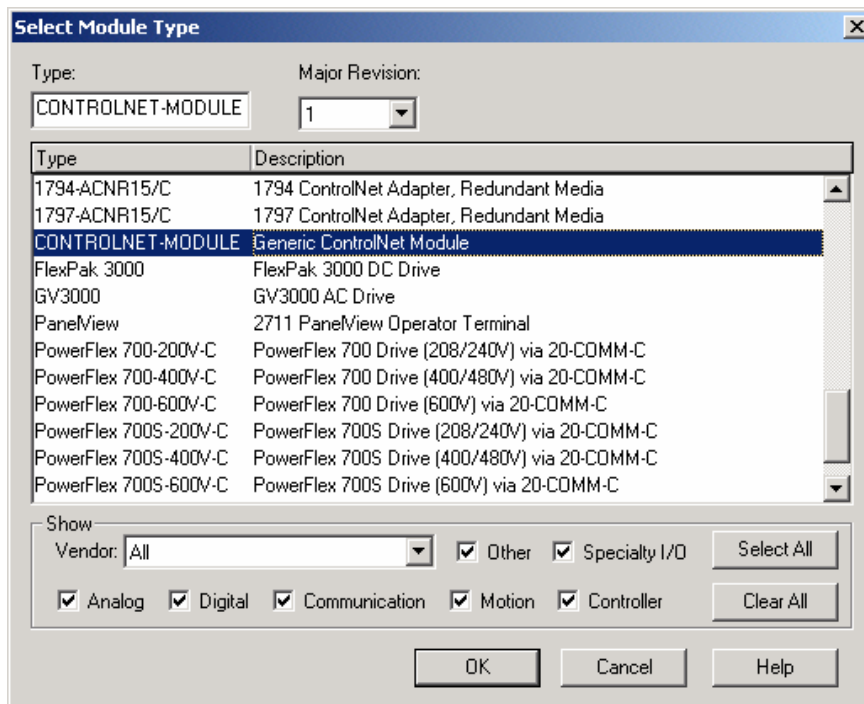

Figure 1
3. From the list of devices select Generic ControlNet Module as shown in Figure 1.